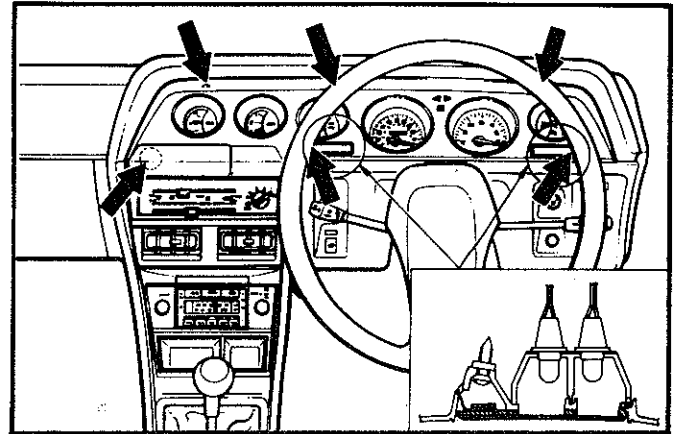

Fig. 5—Cluster retaining screws
(1) Disconnect battery negative (ground) lead.
(2) From under the instrument panel, disconnect the speedometer cable by pressing in the retaining clip and withdrawing the cable from the speedometer.
(3) Remove both warning lamp lenses, these are clipped into position.
(4) Remove the ash tray and ash tray holder upper retaining screws, remove the holder.
(5) Remove the rubber plug on the left hand side of the ash tray and remove the screw.
(6) Remove the screws uncovered by the warning lamp lens, Refer Fig. 5 insert.
(7) Remove the cluster upper retaining screws.
(8) Withdraw the cluster and disconnect all wiring connectors.